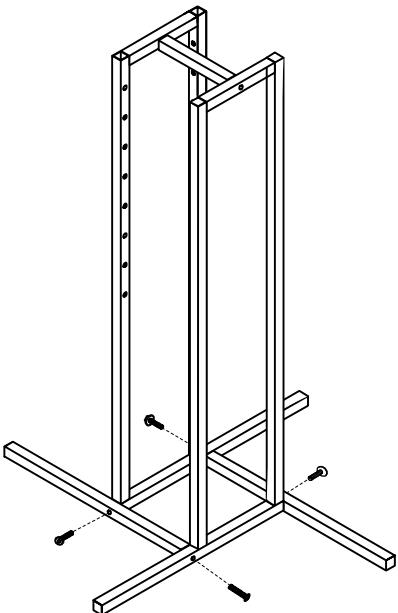

Figure 2
2. Attach legs to frames using two bolts each. (See Figure 2)